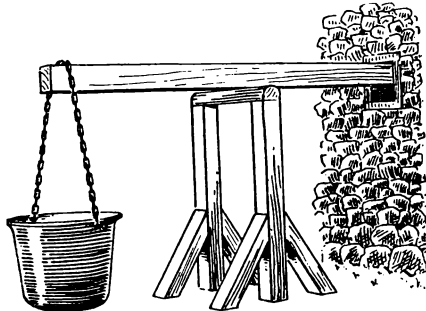

Fig. 2.—An early way of testing the strength of a beam. The bucket was filled with sand until the timber fractured.
The point is that a thin edge cuts more easily but is weaker. Thus, a bevelled-edge paring chisel can be sharpened at a lower angle than a firmer chisel. If you take 30 deg. as an average, however, you will not be far out. This is shown at D, Fig. 2.
**Resistance.**—The supreme quality of strength in timber may be summed up in the word *Resistance*. Our forefathers in distant centuries had a crude method of testing beams (Fig. 2). Held firmly at one end in a horizontal position, a bucket was suspended from the far end, and sand poured into this until the beam showed signs of fracture. The sand was weighed, and in this way the bearing capacity of a beam roughly determined. Comparisons with different timbers in varying sizes led to the adoption of certain woods for different purposes. Hence the old choice of oak or elm for column and beam. Builders of to-day take their dimensions at a glance from scientifically prepared tables.